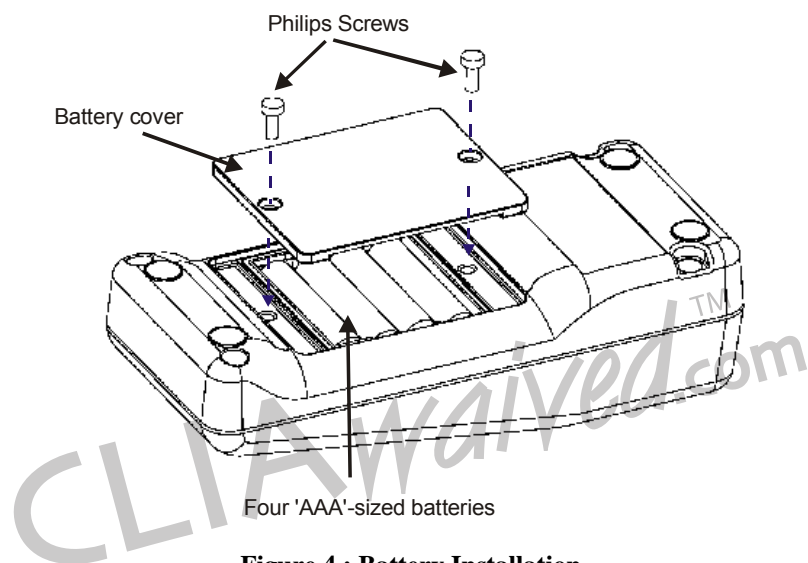

Figure 4 : Battery Installation
1. Use a Philips screwdriver to remove the two screws holding the battery cover. See Figure 4 : Battery Installation.